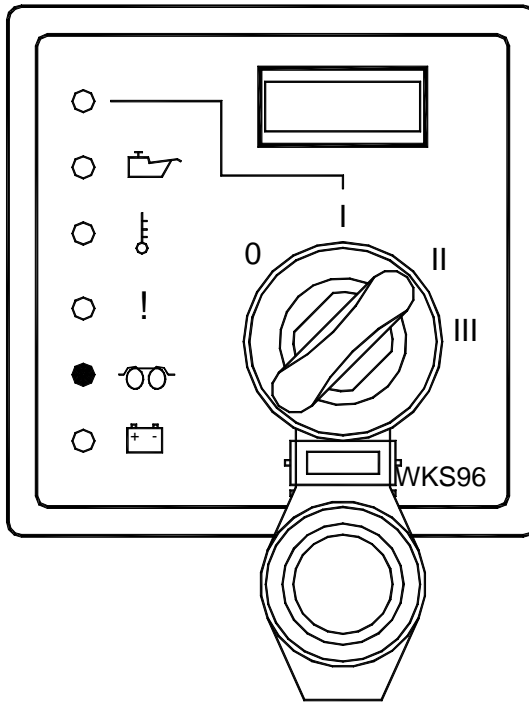

Fig. 2
1. Key switch in stop position (0)
2. Turn Key to position (1) auxiliary circuits energized, LED illuminated.
3. For cold starting only, turn and hold the key in position (2) for 20 seconds, pre-heat circuit energized, LED illuminated. (See fig. 2)